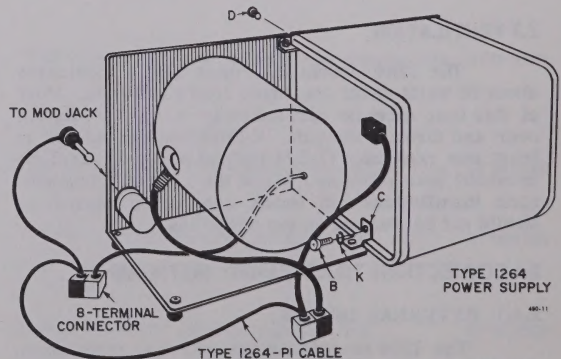

Figure 2-4.
e. Place the instruments side by side as shown in Figure 2-4.
receptacle on the Type 1264-P1 Adaptor Cable (Figure 2-4). Plug the five-terminal Jones connection on the adaptor cable into its mating receptacle on the right-hand side panel of the power supply. Attach the eight-terminal modulation connector on the power supply to its mating connector on the adaptor cable. Finally, insert the telephone plug on the adaptor cable into the MOD jack on the front of the oscillator.